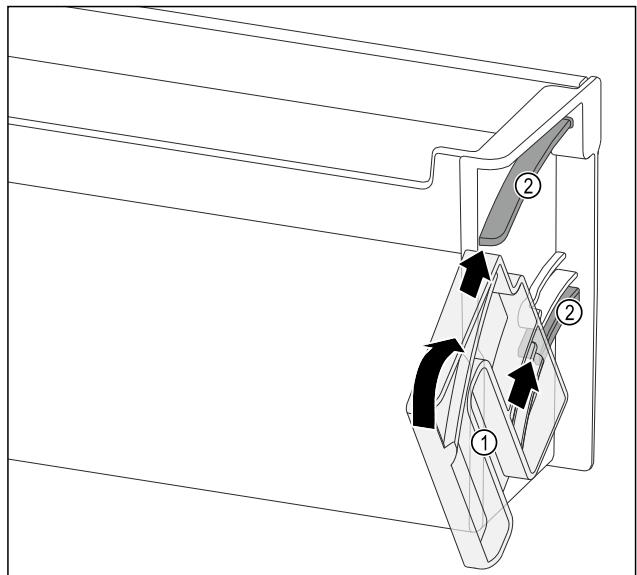

Fig. 149
- ▶ Position the turning unit Fig. 149 (1) so that the recesses are exactly opposite the guide channels Fig. 149 (2) of the door rack.
- ▶ Turn the turning unit Fig. 149 (1) towards the specified direction.